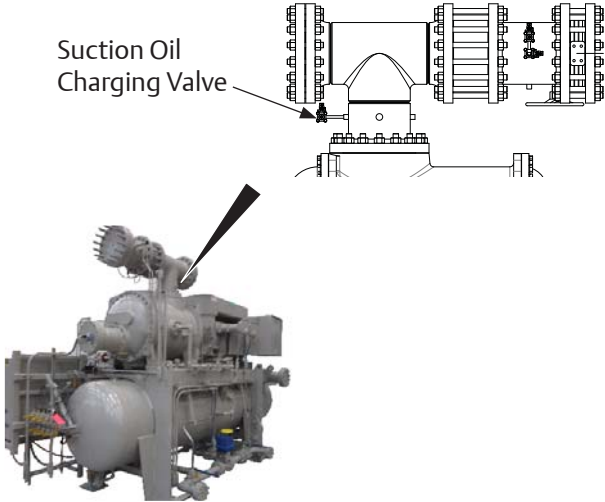

Figure 4-13. Suction Oil Charging Valve
6. Slowly open suction oil charging valve and bleed remaining pressure in compressor unit to atmosphere, see Figure 4-13. Leave suction oil charging valve in open position.